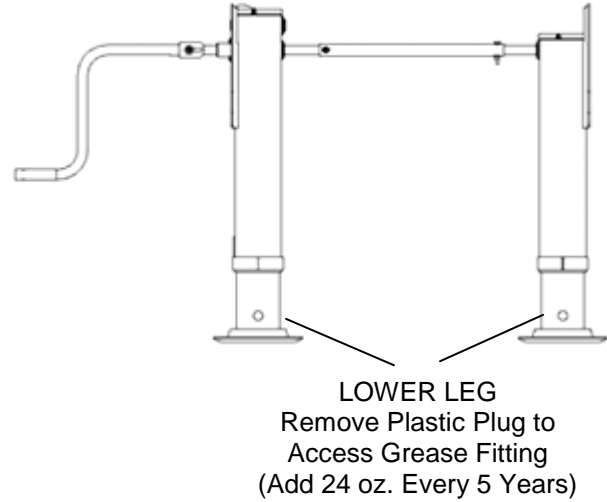

Figure 1
Remove plastic plugs from access holes (Figure 1)
2. Attempting to raise or lower trailer in high gear.	2. Shift to low gear (see figure 1, page1). DO NOT ATTEMPT TO LIFT OR LOWER IN HIGH GEAR.